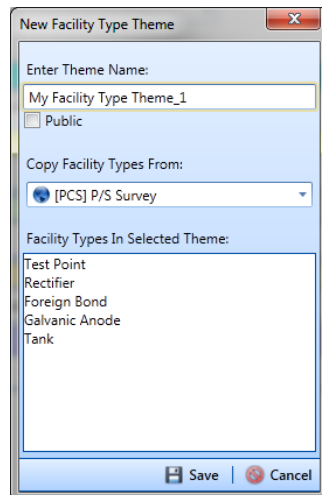

Figure 13-4. New Facility Type Theme
- 2 Click  **Add** to open the *New Facility Type Theme* dialog box (Figure 13-4, page 522).